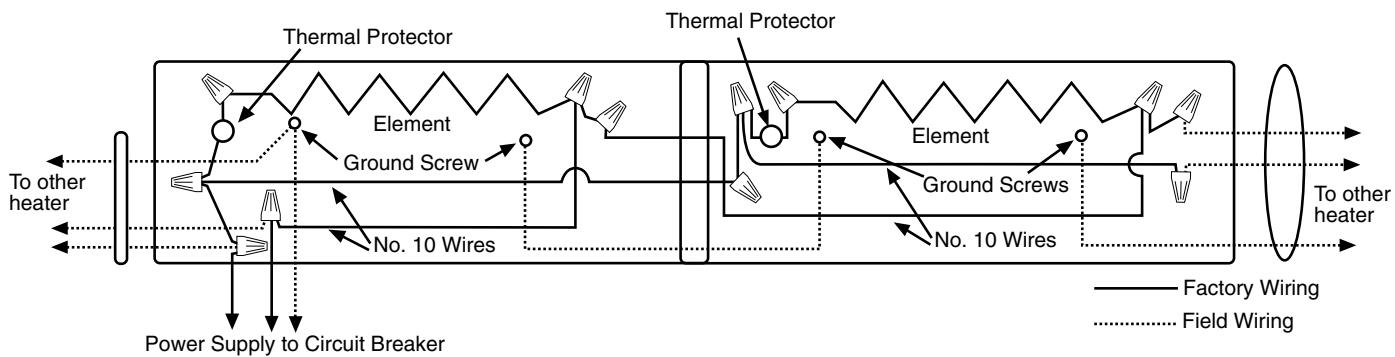

Fig. 8
9. Following the wiring diagram secured to the heater, make the electrical connections. Refer to Fig. 8 to connect the other heaters in parallel. Grounding of the other heaters is accomplished by connecting a jumper wire (not supplied) between the two adjacent heaters.
IMPORTANT NOTE: These heaters are provided with a built-in safety limit (Thermal Protector— see Fig. 8) to automatically turn off the heater if it is blocked or otherwise overheats due to an abnormal condition. The heaters should not be cycling off on this safety control during normal use. If this is occurring, check heater installation to assure it has adequate clearances and the free airflow around heater is not restricted. If heater continues to cycle on this safety control, discontinue using until it can be inspected and/or repaired by a qualified electrician.